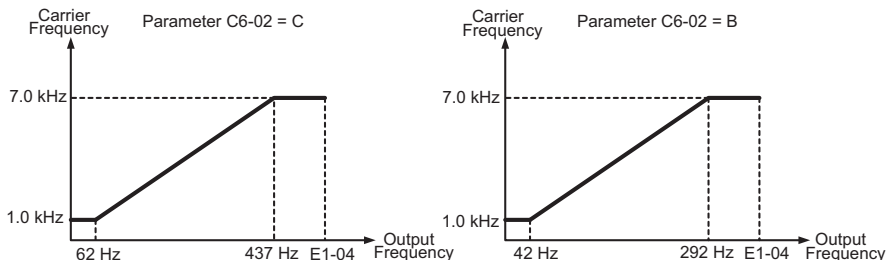

Figure 1 Additional Carrier Frequency Patterns
- The carrier frequency upper limit changed from 15.0 kHz to 7.0 kHz and two new patterns were added. See Figure 1.